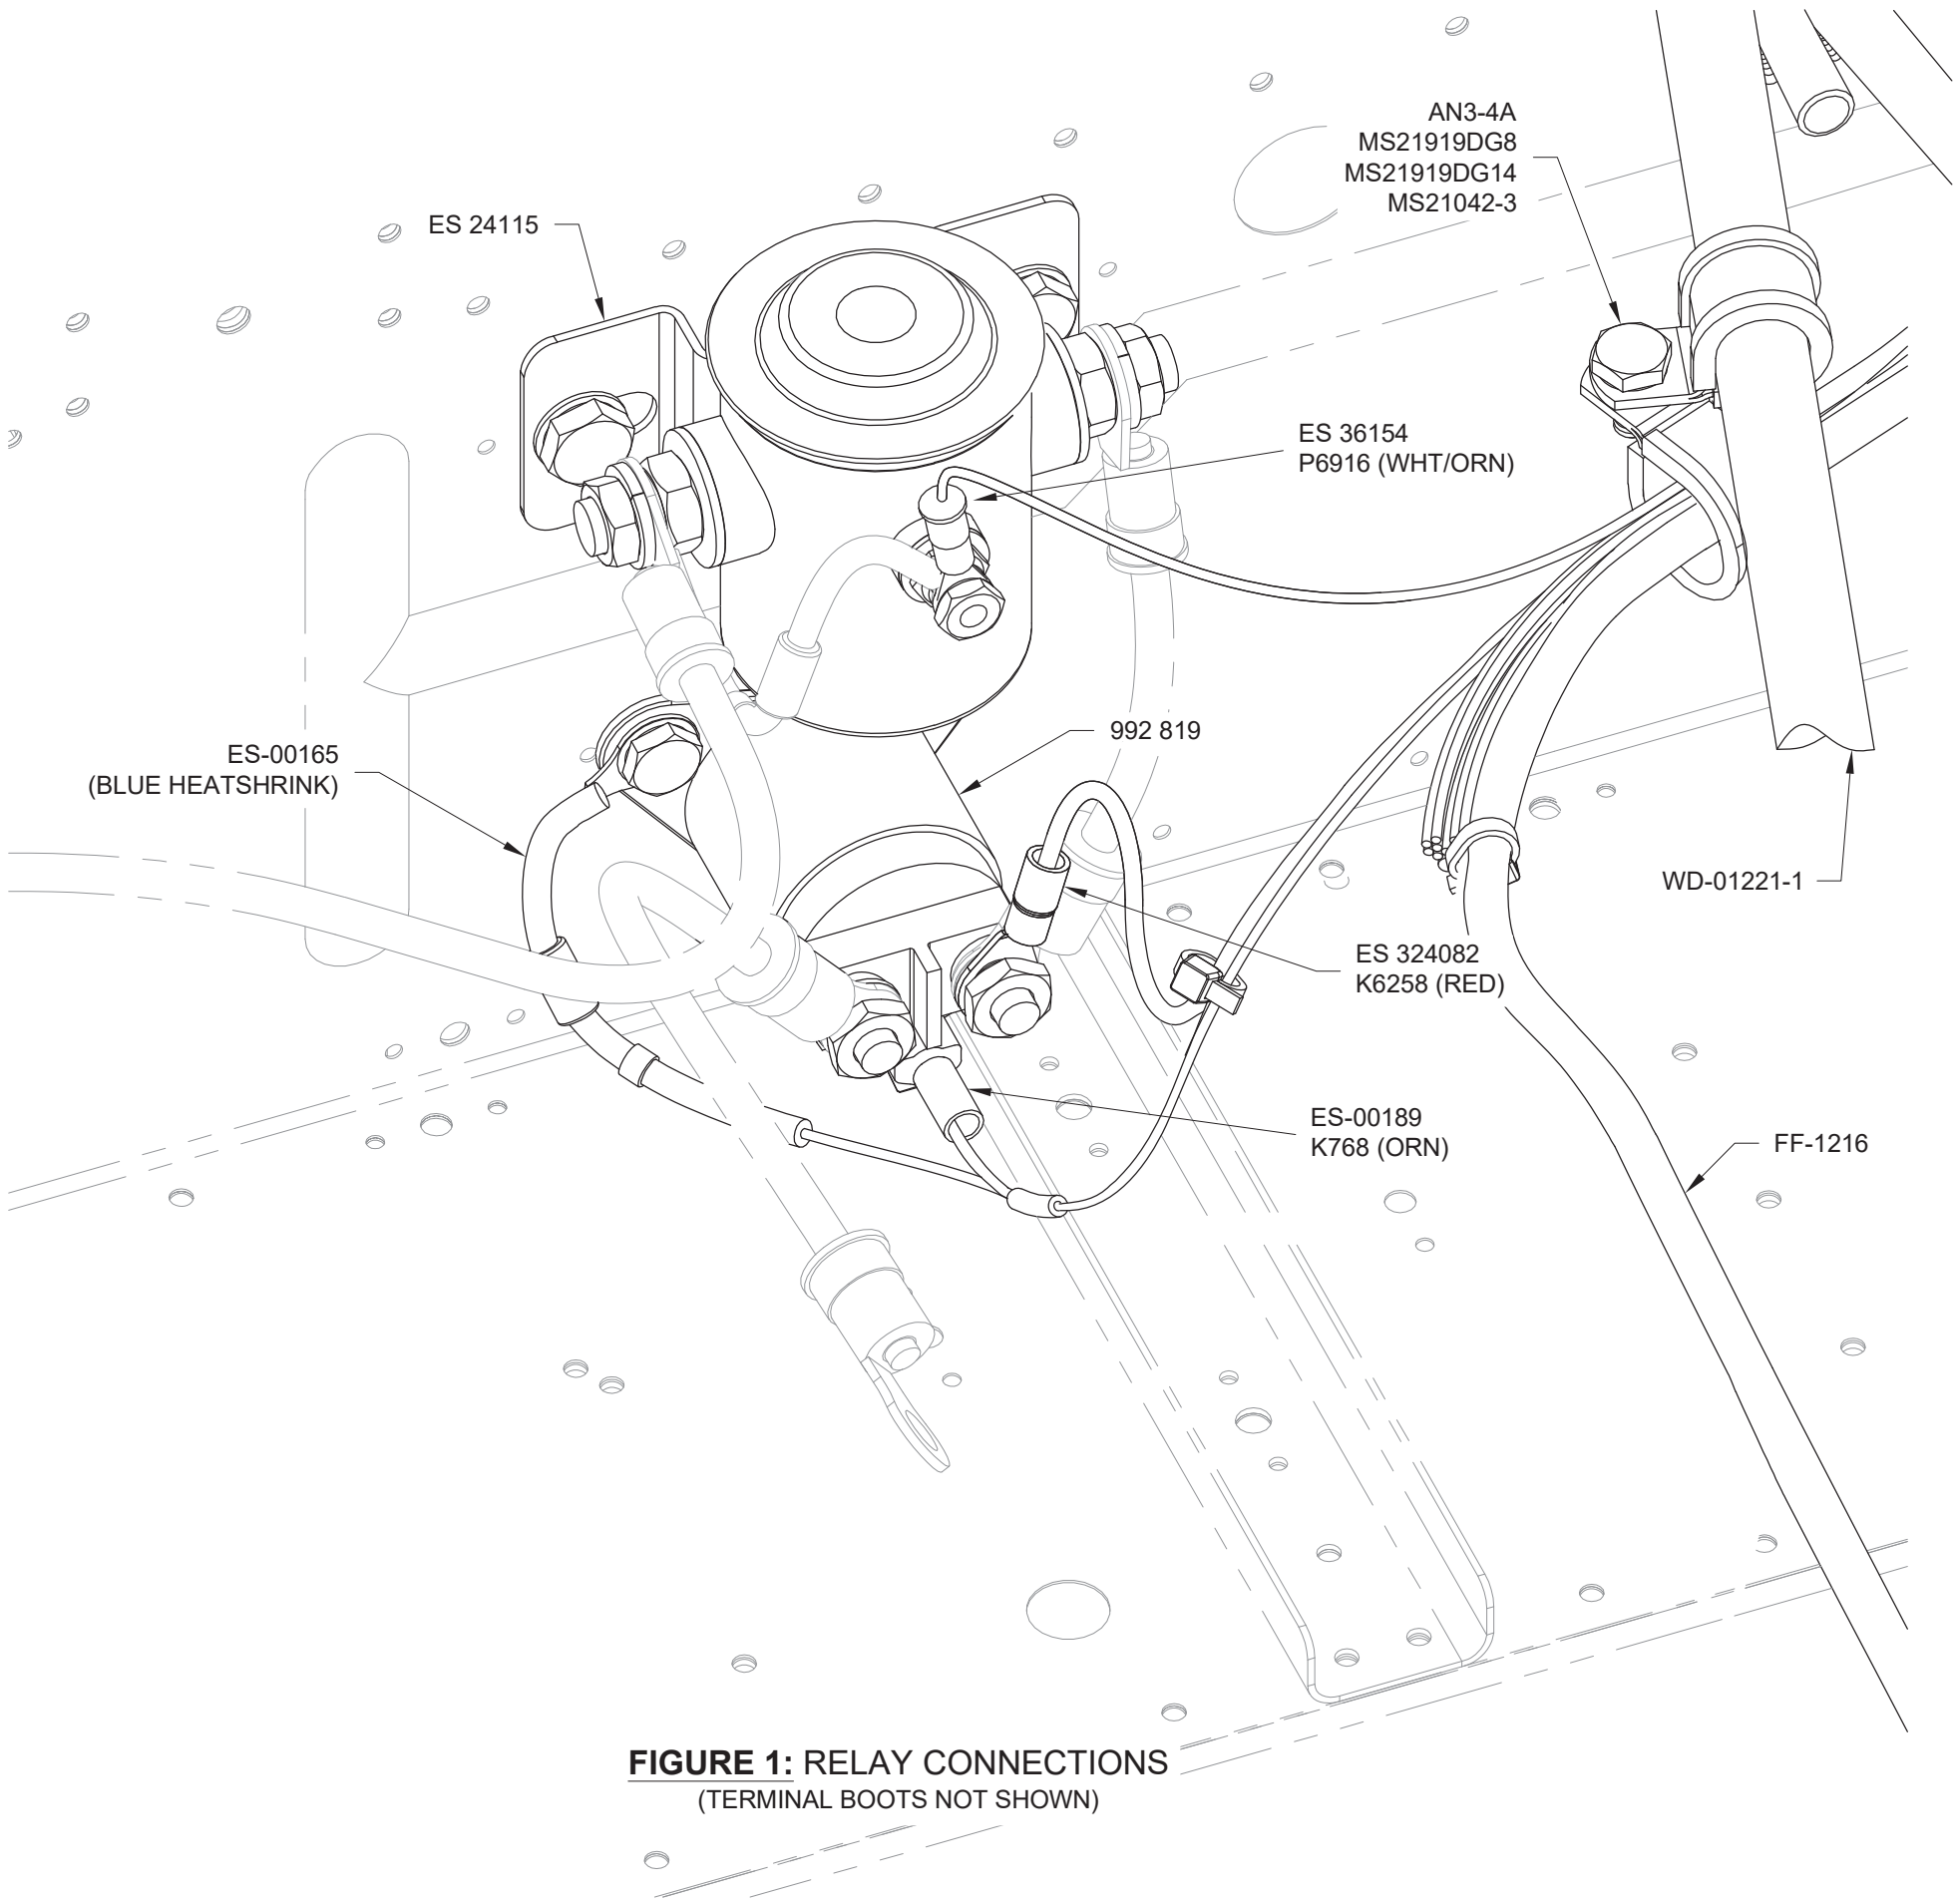

FIGURE 1: RELAY CONNECTIONS
- Step 8: Routing the WH-00139 wires and FF-1216 Pitot Line through the lower clamp, install the two cushion clamps together and around the inboard tube of the WD-01221-1 Engine Mount Standoff as shown in Figure 1.